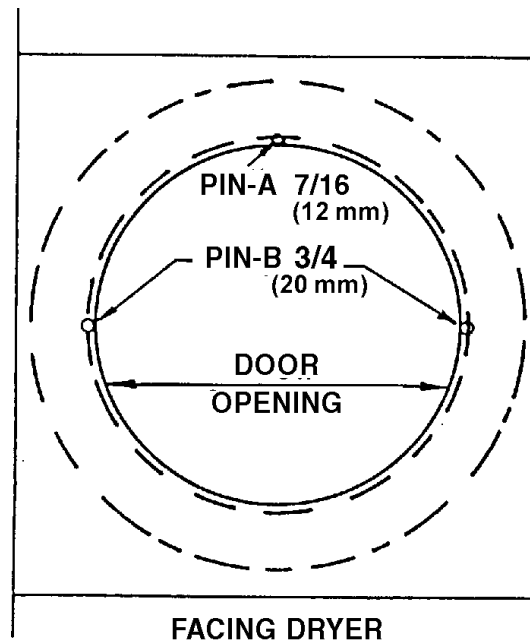

FIG. 2
3. Place 3/8" x 5/8" (10 mm x 16 mm) spacer bar or equivalent "C" (figure 2) under air blade in position shown; hold switch mounting bracket firmly and adjust switch actuator "D" with needle nose pliers at "E" by twisting actuator right or left, whichever is needed, so that switch closes when end of air blade engages bar "C".